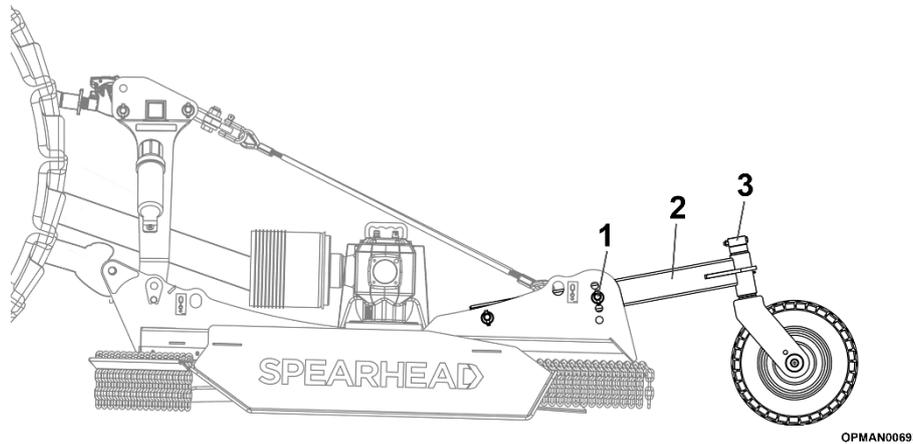

Figure 4.11 – Multicut 300 Height Adjustment Dependent Variables
1. Wheel arm pin positions (ref Figure 4.11)
2. Wheel arm orientation (ref Figure 4.11)
3. Wheel yoke spacer positions (ref Figure 4.11)